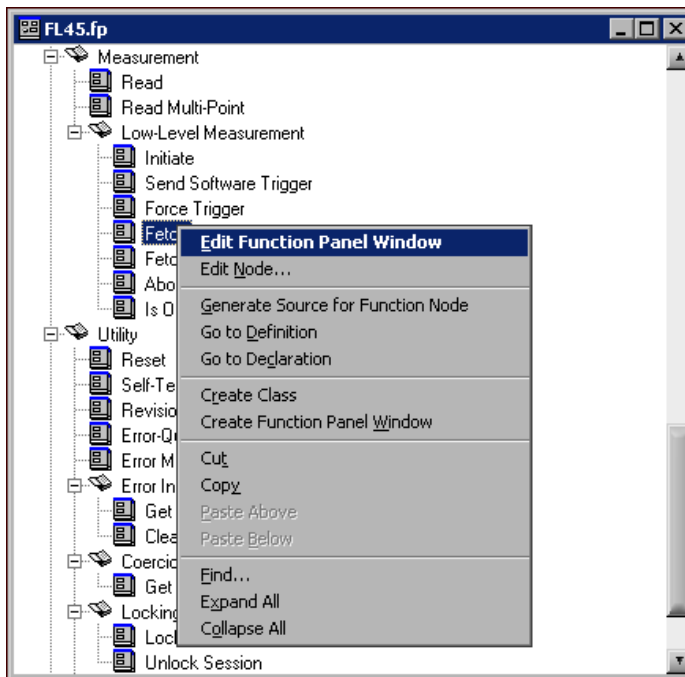

Figure 5-17. Function Tree Editor Context Menu
2. Scroll down to the `Fetch` function. Right-click `Fetch` to display the context menu, as shown in Figure 5-17.